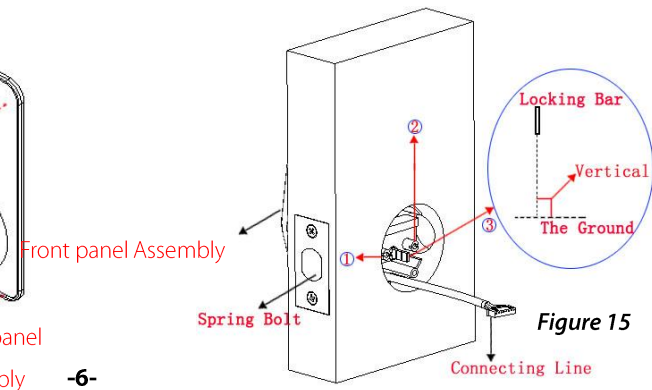

Figure 15
3. Install the **Front panel Assembly** into the matching **Hole Slot** on the door. (There are three holes on the **Lock Body**, as shown in the preceding figure. The cylinder on the fore plate composition must be pulled out from the cross-shaped hole of the **Lock Body** and the **Locking Bar** must be vertical to the ground.), as shown in **Figure 15**.